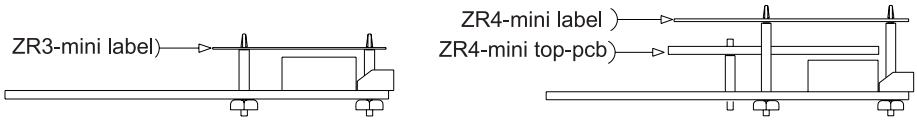

Figure 1. Side view of the ZR3-mini and ZR4-mini
- If you have a ZR4-mini also remove the top PCB (figure 1)
- Replace the label as shown in figure 1.